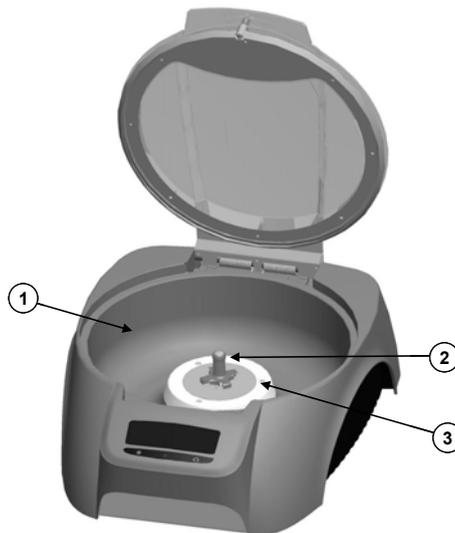

Figure 3 : Centrifugation chamber
The Centrifugation chamber (Ref. (1), Figure 3) is the centrifuge area designed to house the removable *DG Spin* Head, contain any dirt caused by possible fortuitous spillages or leaks and facilitate its cleaning.
- (1) Centrifugation chamber
- (2) Lean axle and Crosshead of *DG Spin* Head
- (3) Motor protective cover
The Centrifugation chamber also has a protective cover (Ref. (3), Figure 3) that protects the motor.